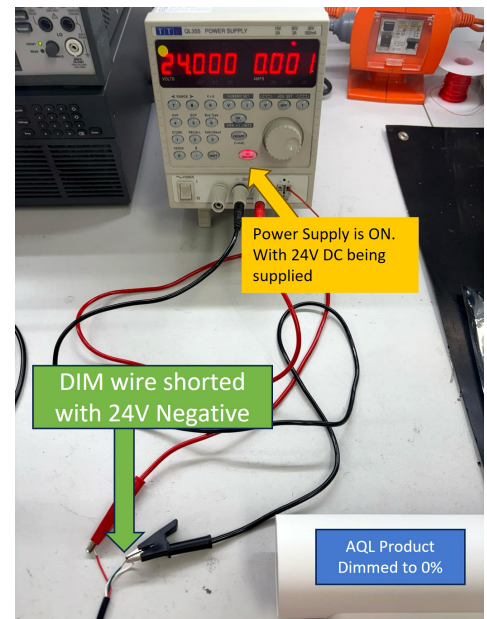

FIG. 5
3. After confirming the AQL product illuminates with the dim wire floating, test the dimming function by **connecting** (shorting) the **dim wire to the white wire** or 24V negative. This connection should reduce brightness to 0% (Fig. 5), confirming proper dimming function.